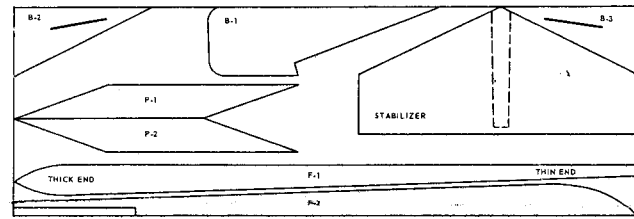

Figure 1
**Step 2.** Cut out all balsa parts, being careful to follow the solid lines drawn on the balsa wood; label all the parts as shown in Fig. 1.